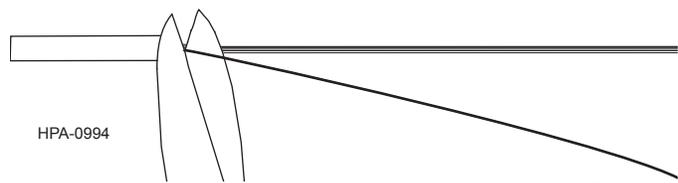

Figure 31
- Step 4:** Using scissors, cut the fiber(s) to be accessed as close as possible to the appropriate end of the central tube (Figure 31). USE EXTREME CARE TO CUT ONLY THE FIBER(S) TO BE ACCESSED.